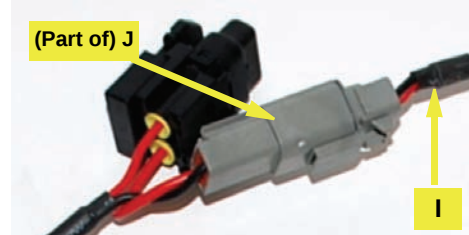

Figure 6d: Power cable to junction box cable
- d. Connect the gray connector of the power cable **I** (routed into the cab at step 6a) to the gray cable from the junction box **J** (Figure 6d).